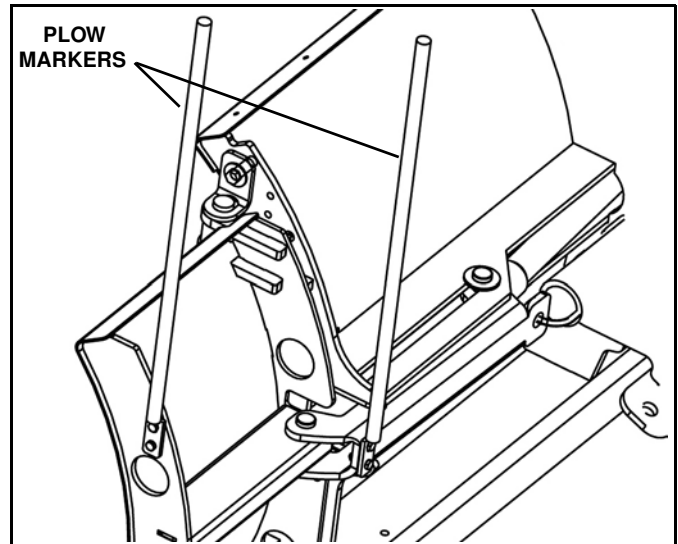

Figure 1-26
37. Attach a plow marker to each wing and wing link as shown and secure using 5/16 x1" cap screws and locknuts. (See Figure 1-26).